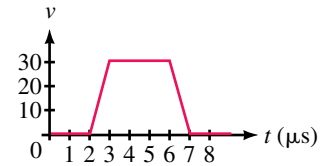

FIGURE 11-65
41. Determine the rise time, fall time, and pulse width for the pulse in Figure 11-65.